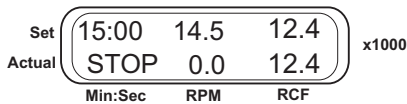

Fig.2 Control panel in stop mode
- 4.6. Place the rotor lid on the rotor pressing the lid holder down. Close the outer lid (the clicking sound of the lock and readings STOP in the lower line of the display indicate that the lid is closed, see fig.2).
- 4.10. Centrifugation is stopped automatically after the set time elapses (while braking display shows blinking indication STOP(fig.2). A sound signal is emitted after full stop of the rotor.